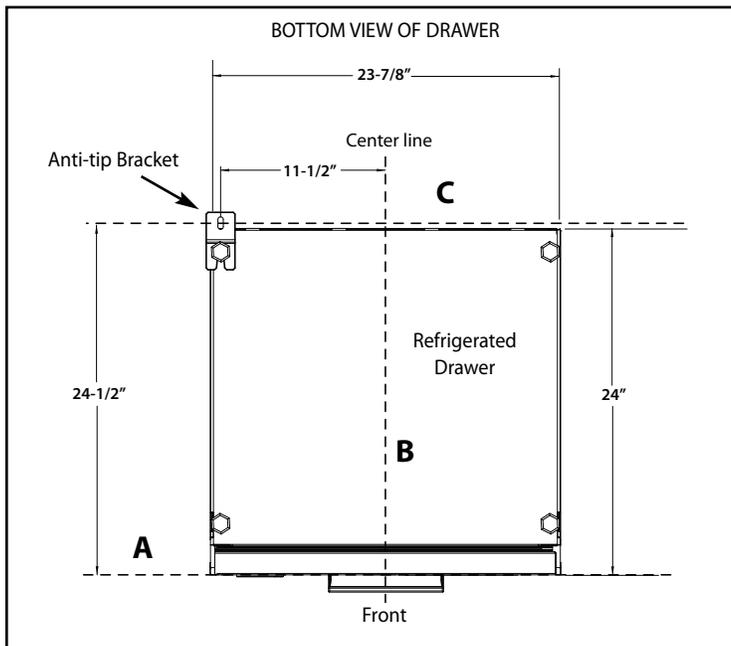

Fig. 06
The anti-tip bracket can be located on the floor in the left or right rear corner of the refrigerated drawer as shown in Figure 06.
1. Decide where you want to place the Drawer. Make a temporary line on the floor in line with the drawer face, "A" as shown in Figure 06.
2. At the center point where the drawer will be, draw a center line "B" (Fig. 06) perpendicular to line "A" to the rear of the unit. Make a mark on line "B" 24-1/2 inches from line "A".